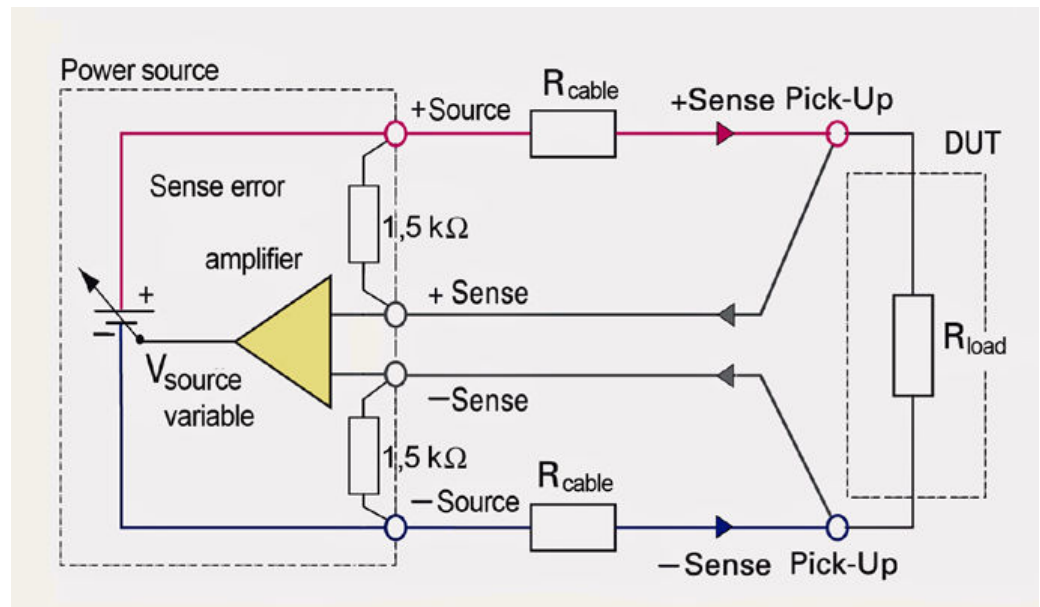

Figure 6-1: Circuit for compensating voltage drops
2. Connect both cables to the DUT connectors of the source lines, as shown in Figure 6-1